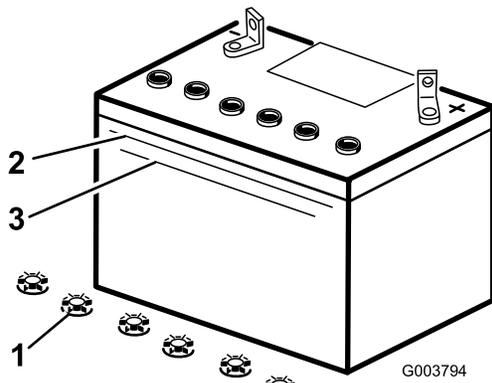

Figure 36
3. Look at the side of the battery. The electrolyte must be up to the Upper line (Figure 36). Do not allow the electrolyte to fall below the Lower line (Figure 36).
6. Remove the filler caps from the battery (Figure 36).
7. Slowly pour distilled water into each battery cell until the electrolyte level is up to the Upper line (Figure 36) on the battery case.
8. Wait five to ten minutes after filling the battery cells. Add distilled water, if necessary, until the electrolyte level is up to the Upper line (Figure 36) on the battery case.